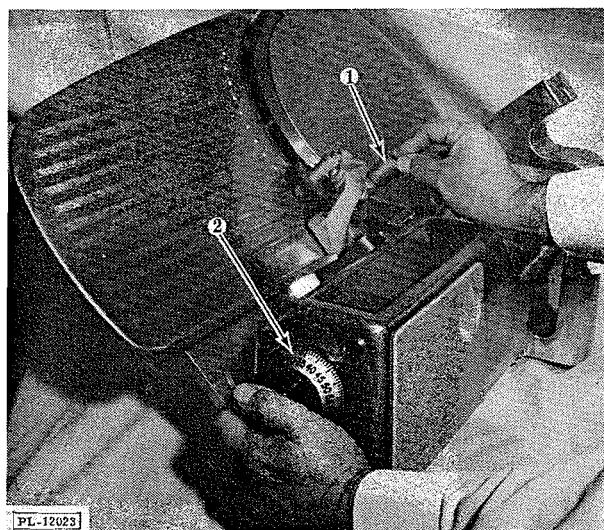

Fig. 4
6.6 Turn the slice adjusting knob (2, Fig. 4) slowly to the right. This will bring the grinding wheel in contact with the beveled side of the knife.
6.8 As soon as burr appears, depress truing wheel by pressing on plunger (1, Fig. 4) with right hand as shown. Grind and true simultaneously for approximately 3 seconds.